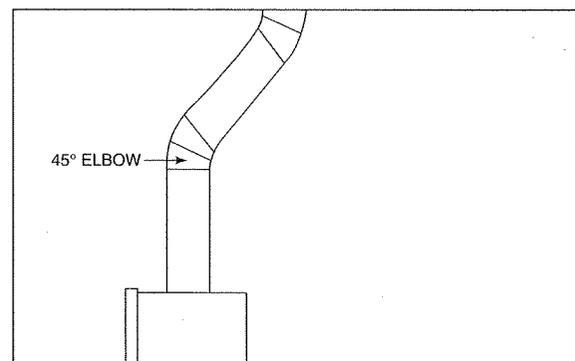

Figure 5
3. **Using Elbows.** Only a 45° elbow or less is allowed on this unit. See Figure 5.